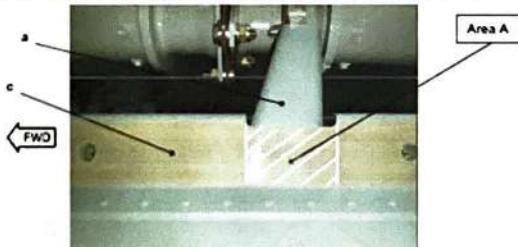

Figure 1
**3.B.2.c. Removal of the Teflon tape from the tailboom (Figure 1)**